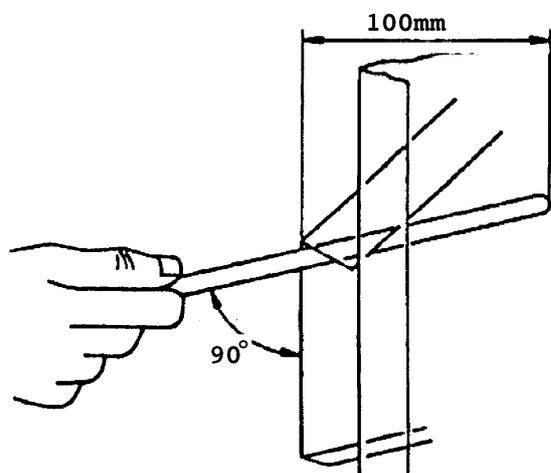

Fig. 17 Spillage Test
**13.3** After the appliance has been alight for five minutes test with a lighted smoke match inserted in the special tube supplied. Insert the tube horizontally at the left side along the rear edge of the downdraught diverter up to the mark on the tube (100mm from the end) - see figure 17.